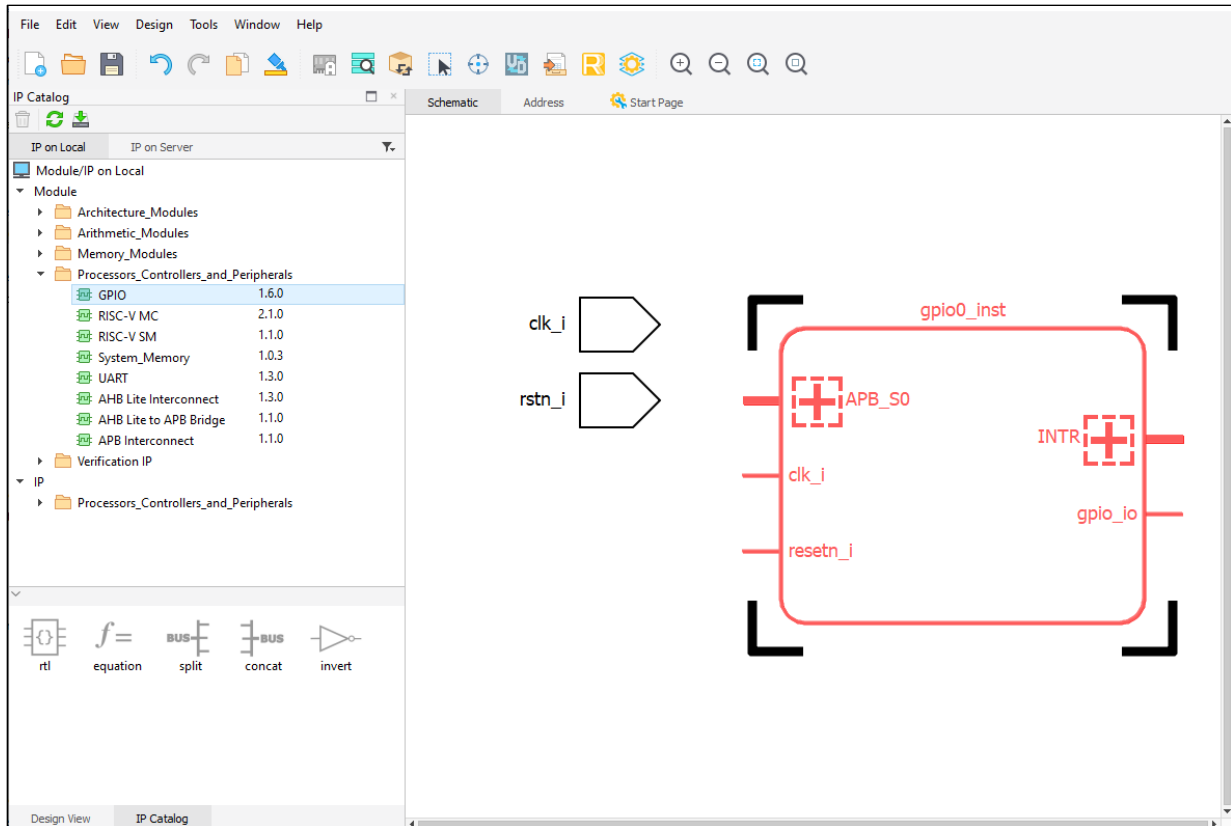

Figure 2.62. Select Object
- Click on the object in the Schematic view. The selected object turns to red (Figure 2.62).